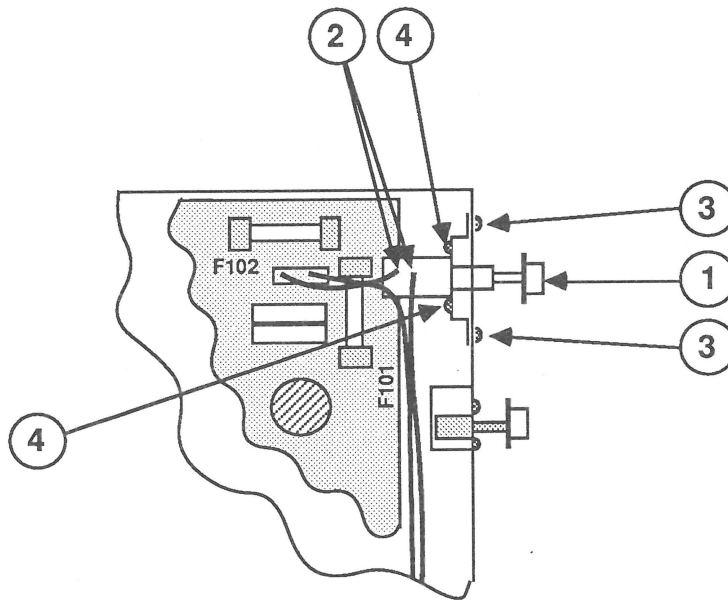

FIGURE 26
6. Pull the plastic knob off the power switch stem (Figure 26, #1).
7. Desolder the two power switch wires (Figure 26, #2) from the switch.
8. Remove the two outside screws (Figure 26, #3) that secure the power switch bracket to the power supply housing and lift out the switch assembly.
9. Remove the two tiny screws (Figure 26, #4) that secure the power switch to its bracket. **Keep the bracket to install on the replacement switch.**
1. Install the switch on its metal bracket and replace the two tiny screws (Figure 26, #4).
2. Install the switch assembly inside the power supply housing and replace the two screws (Figure 26, #3).
3. Solder the two power switch wires (Figure 26, #2) to the switch. (Wire positions are interchangeable.)
4. Install the power supply knob on the switch stem (Figure 26, #1).